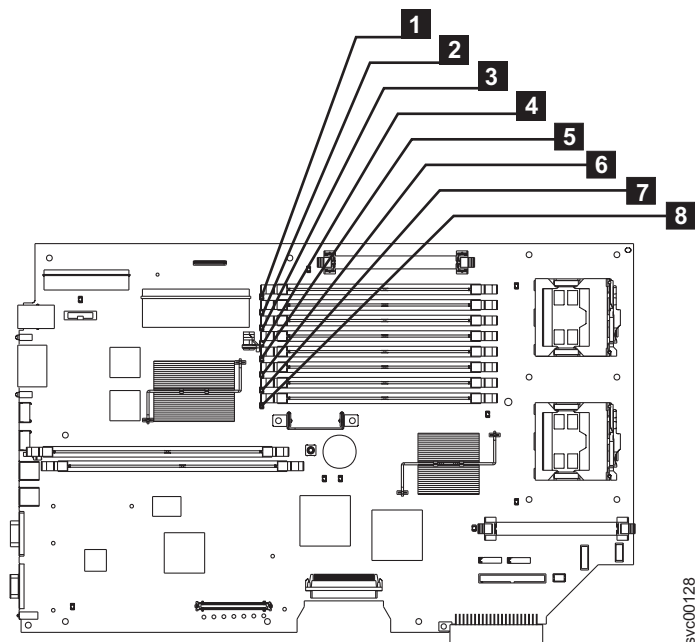

Figure 94. Locating the SAN Volume Controller 2145-8F2 or SAN Volume Controller 2145-8F4 memory modules
- SAN Volume Controller 2145-8F4 or SAN Volume Controller 2145-8F2: These modules are numbered **1** through **8**, as shown in Figure 94.